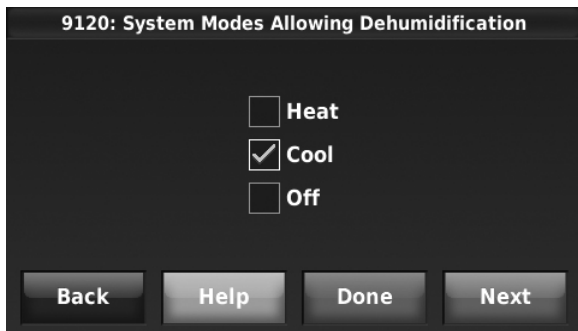

**Fig. 229.**
4. Select the terminals wired to the Whole House Dehumidifier. See Fig. 229.